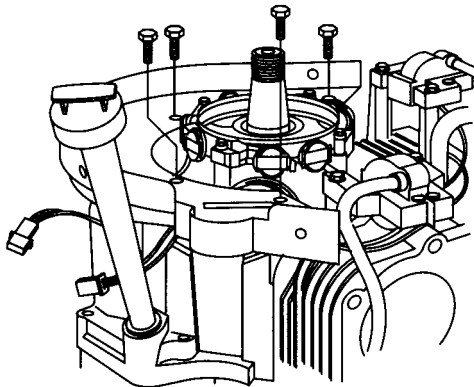

Fig. 10 - Route Armature Ground Wire
**Note:** Route armature ground wire under back plate and between starter motor mounting bosses on cylinder as shown, Fig. 10.